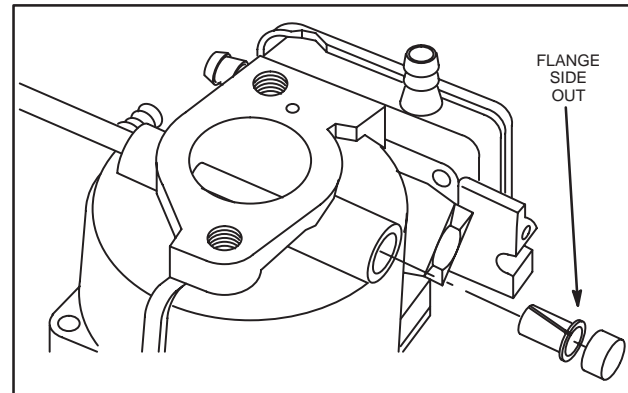

Fig. 17 – Replace Nylon Bushing
3. Install new bushings with flange side out, Fig. 17.